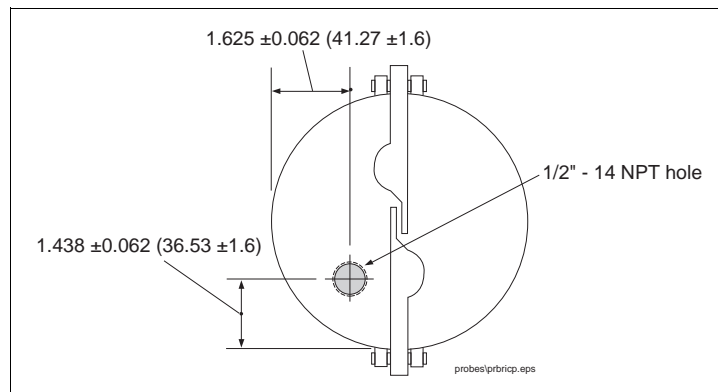

Figure 8. Modifying an Existing Metal Riser Cap
2. Drill and tap the cap for a 1/2"-14 NPT cord grip thread [Figure 8].